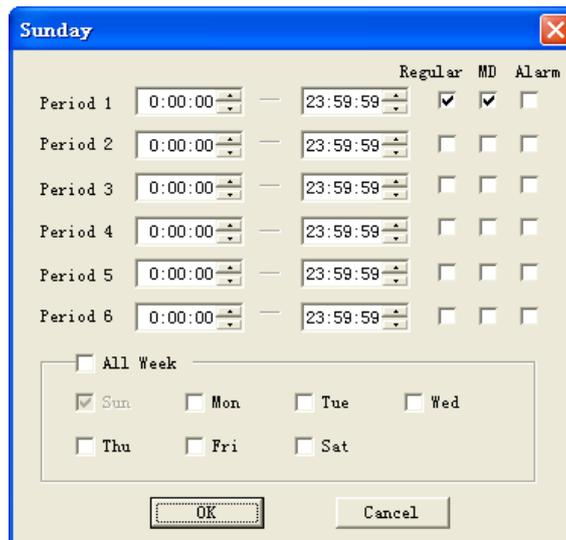

Figure 6-28
- ✧ Period: There are six periods for you to set. Please click set button of the corresponding period. See Figure 6-28.Please note all the setup here shall be in one day. E.g. 00.00 to 24.00.